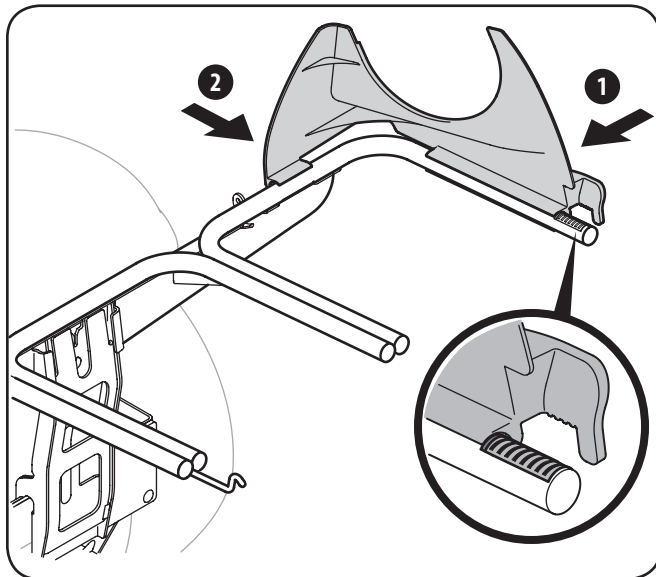

Figure 4-9
1. Snap the plastic upper chute support in place by first clipping the side portion onto the bagger support rail (1) with the edge of the snap feature aligned with the red line, as seen in the inset of Figure 4-9.
2. Snap the front side of the chute support to the rail (2), as shown in Figure 4-9.